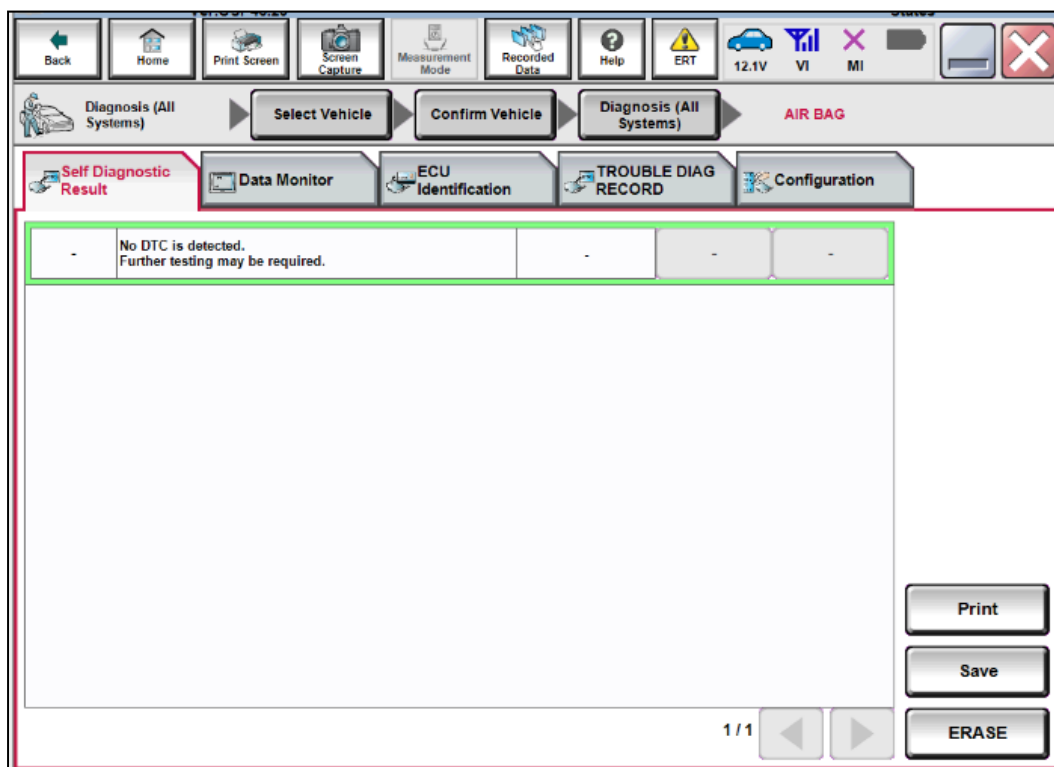

Figure 17
- After selecting **Close**, the screen in Figure 17 should display (the DTC is erased).